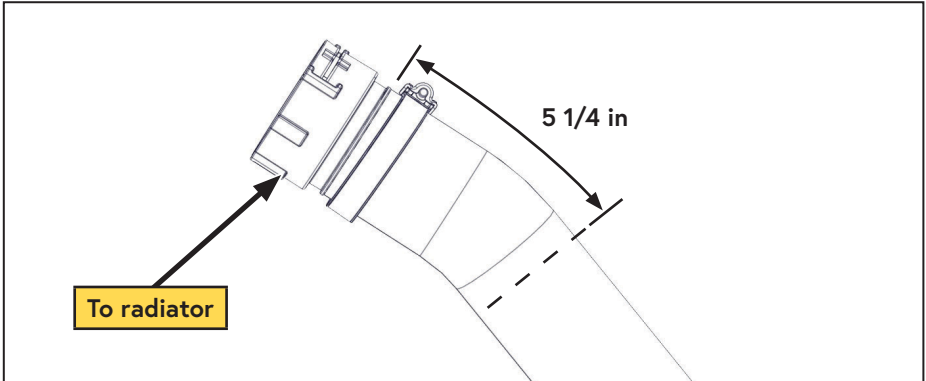

Figure 2 — Lower radiator hose modification
- ☐ From the radiator side of the hose, measure 5 1/4 in along the outside radius towards the center of the hose and mark with a grease pen (Figure 2).